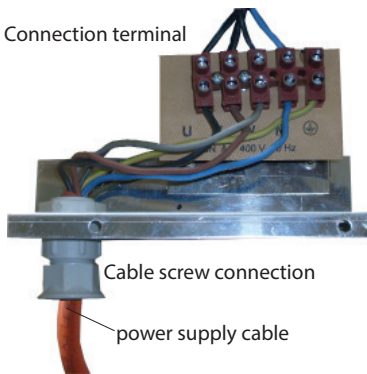

Fig. 4
4. Make the cable connections according to the wiring diagram. The corresponding wiring diagram is given in this manual (fig. 4).